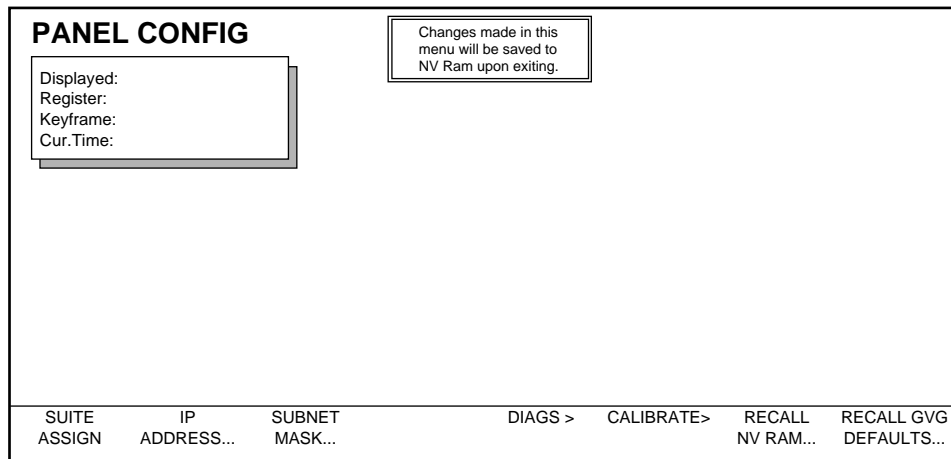

Figure 3-33. Panel Configuration Menu
1. From the System Setup menu press **PANEL CONFIG >** to go to the Panel Configuration menu (Figure 3-33).